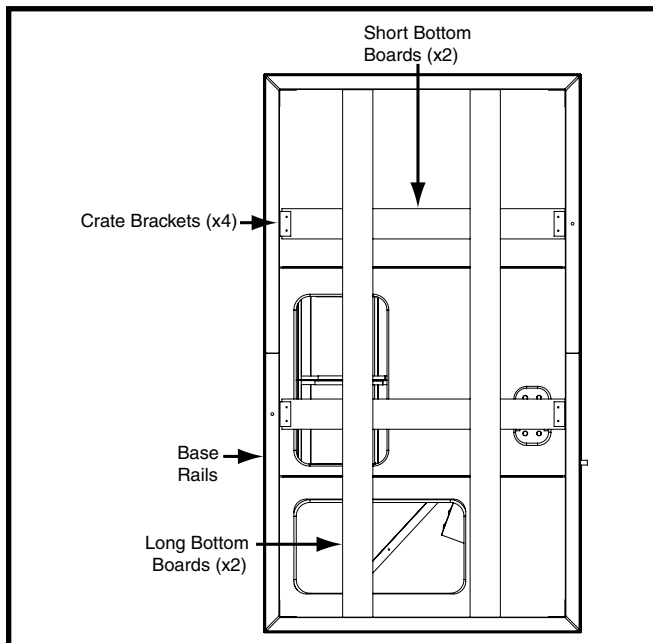

Figure 3. Side View
4. Remove crate brackets (Figure 3) securing long and short bottom boards to underside of unit. **Some screws are located in fork slots.**